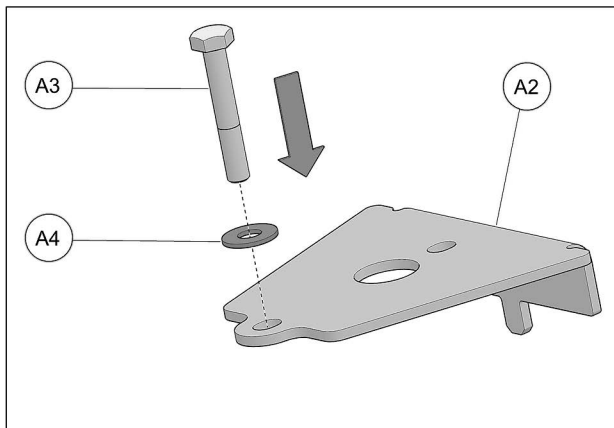

Fig. 27
10. Insert bolt (A3) & washer (A4) in hole at the front of cover plate (A2). See Fig. 27